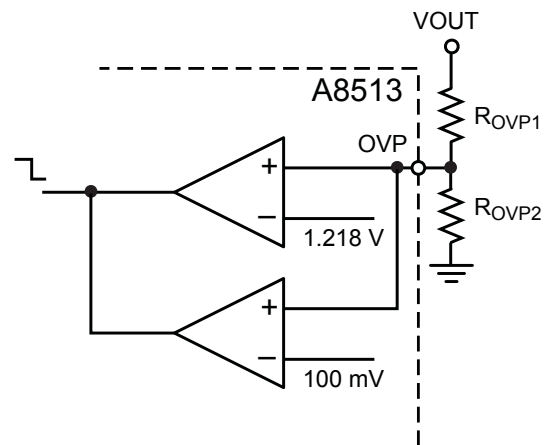

Figure 8. Simplified diagram of the OVP pin functions.
**Overvoltage Protection** The OVP pin has a threshold, VOVPHI(th), of 1.218 V. A resistive divider can be used to set the VOUT overvoltage protection threshold up to 45 V (see figure 8). There is no restriction on the value of the resistor chosen, but it is recommended that the divider current be kept between 10 and 60 μA. This will minimize the effect of sense current on the accuracy of OVP, and minimize output voltage bleed-off during PWM dimming.